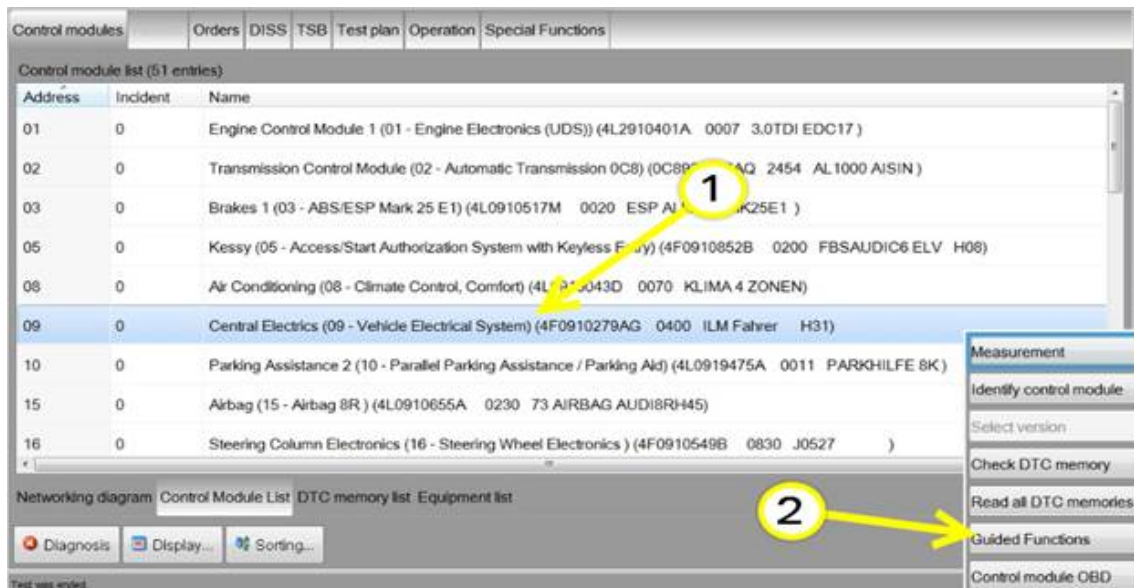

Figure 1. Selecting Central Electrics (09-Vehicle Electrical System) (arrow 1) and selecting Guided Functions (arrow 2).
1. Right-click **Central Electrics (09-Vehicle Electrical System)** (Figure 1, arrow 1).
2. Select **Guided Functions** from the pop-up menu (Figure 1, arrow 2).